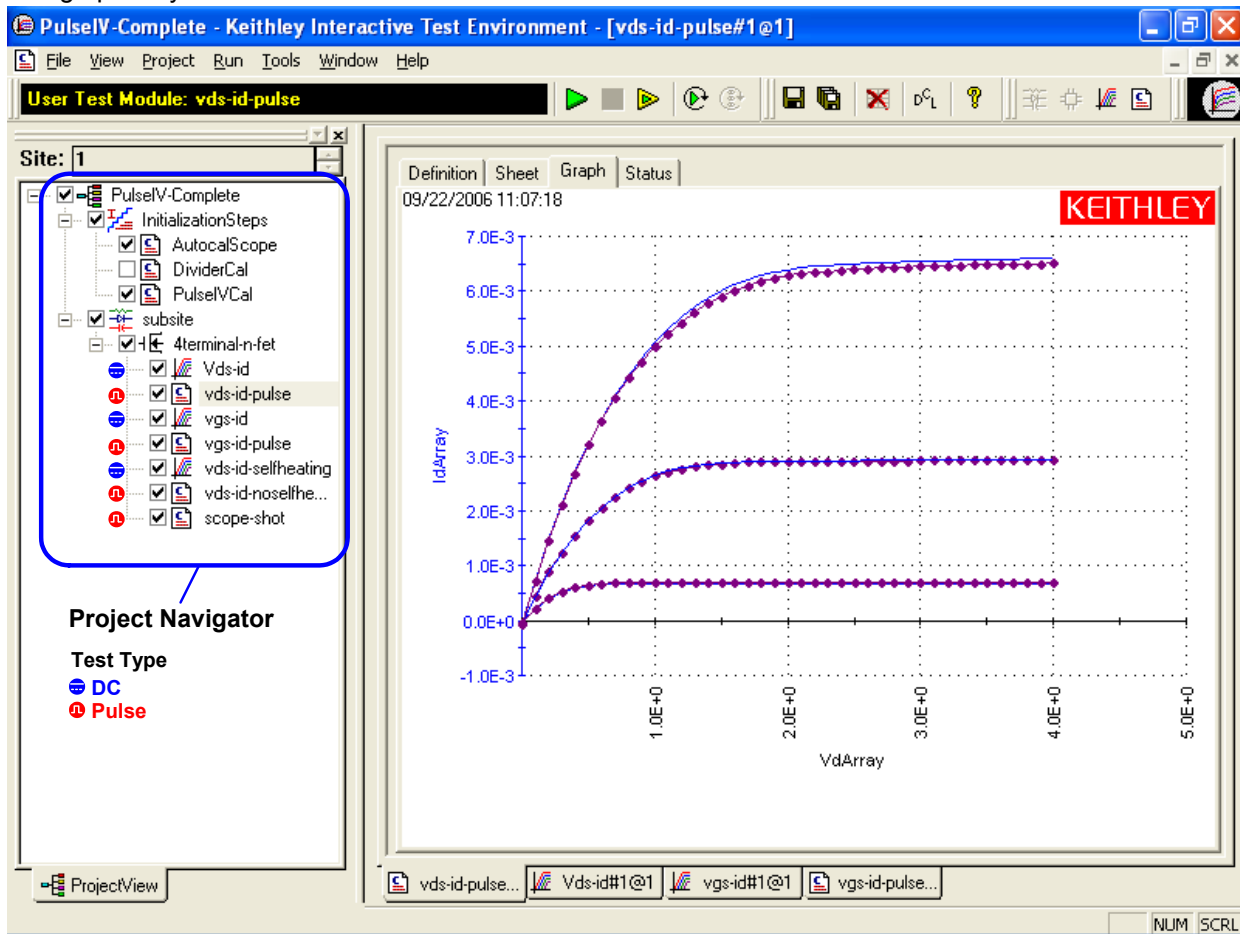
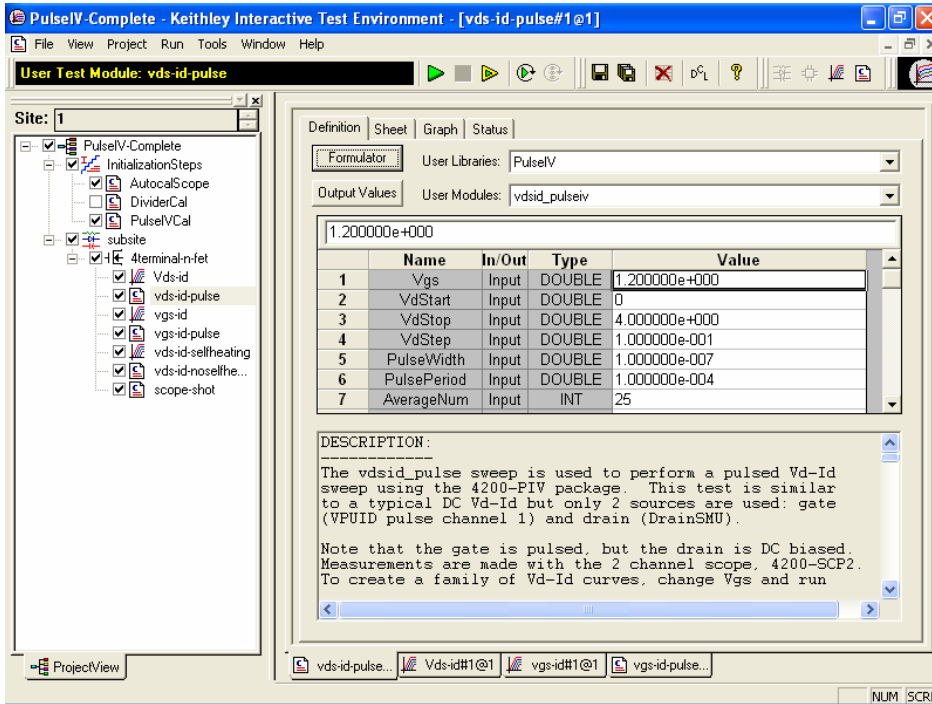

Figure 4. Screenshot of the 4200 PulseIV-Complete project, with overlay explanation for the Project Navigator.
Figure 7. Pulse Vds-id UTM definition tab.
The Vds-id-pulse test is shown in Figure 4 and 7. Since the pulse tests are UTMs (User Test Modules), the parameters are changed via the table interface shown in Figure 7. For the pulse Vds-id, the gate voltage is not stepped, so each unique gate voltage must be entered before appending the next Vds-id curve to the graph.
4. The screen should resemble the screen shot in Figure 4. The right portion of the screen may not be the graph shown, but the project navigator should match that shown in Figure 4.
2. Double-click AutocalScope in the Project Navigator (Figure 4).